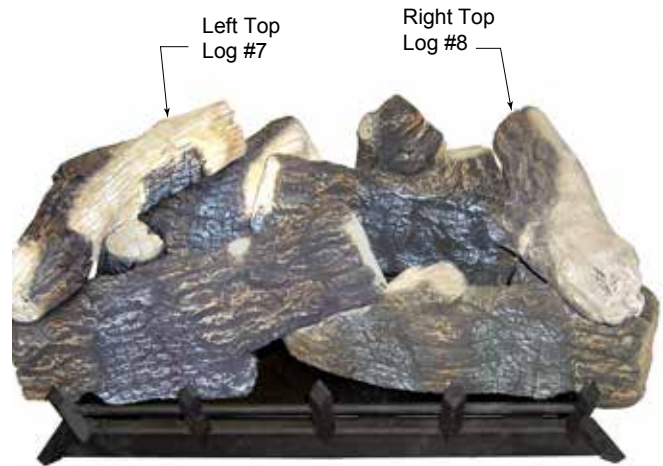

Figure 26 - Place Right Top Log #8
- Place right top log (#8) onto right rear (#3) and right front (#2) logs using locator on bottom of right top log. *Figure 26*